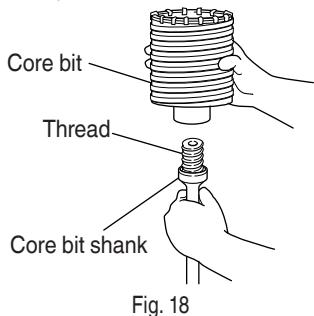

Fig. 18
- (1) Mount the core bit to the core bit shank. (Fig. 18) Lubricate the thread of the core bit shank to facilitate disassembly.